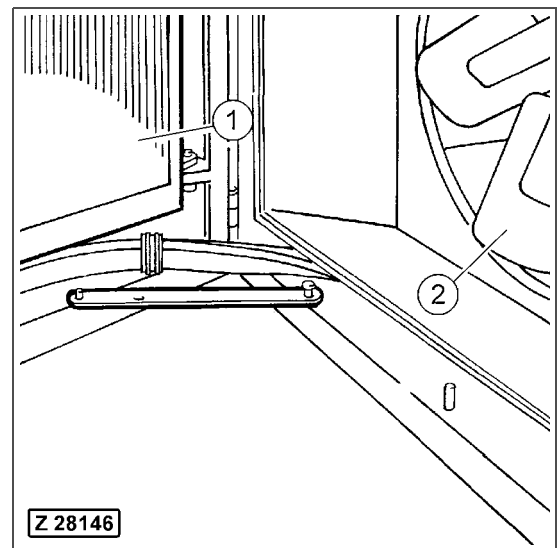

Fig. 3-51
4. Open the swing out cooler (Fig. 3-51, Pos. 1). to gain access to the hydraulic cooler fans (Fig. 3-51, Pos. 2).